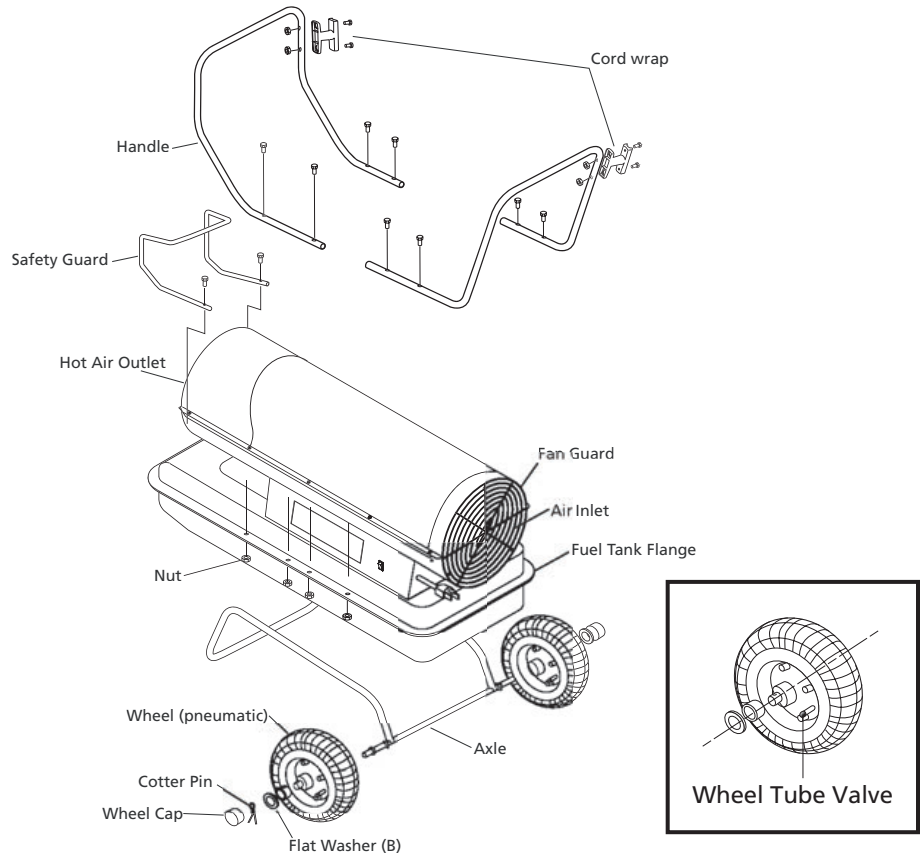

Figure 5 – 3VE53A Assembly
NOTE : When installing wheels, wheel tube valve of wheels outward wheel support frame (figure 5).
2. Place flat washers (L) and cotter pins on axle ends and bend cotter pins with long nose pliers to secure.
3. Place wheel cap on flat washers (L).
4. Place heater on wheel support frame. Make sure air inlet end (rear) of heater is over wheels. Align the holes on fuel tank flange. Insert screws through handles (front and rear), fuel tank flange, and wheel support frame as shown in Figure 5 and attach nut finger tight after each screw is inserted.